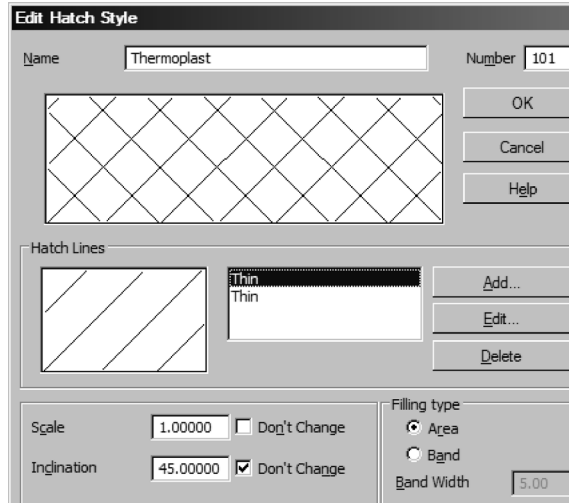

Fig. 8.10. Creating the first and the second groups of lines
8. After performing the operations similar to those described in para. 6– 7, Exercise 7, edit the available group of thin lines and add a new group. Parameters characterizing the location of these groups in a hatch coordinate system are represented in Table 8.6. To monitor the correctness of your operations, compare the dialog that you see on the screen with the dialog shown in Fig. 8.10.